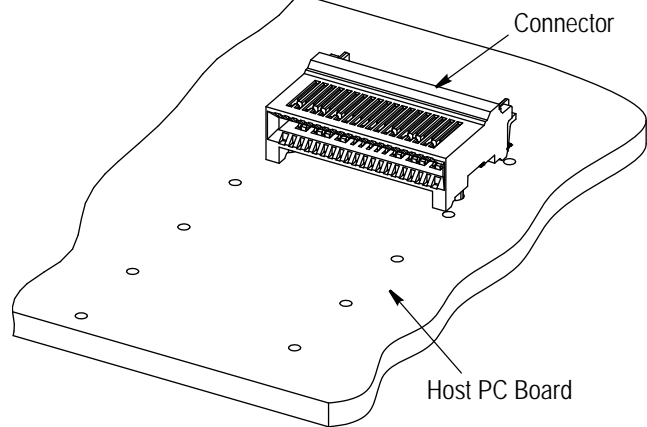

Figure 4
1. Install the connector onto the host pc board according to Application Specification 114-32022. Refer to Figure 4. Solder the connector to the pc board before seating the cage assembly.